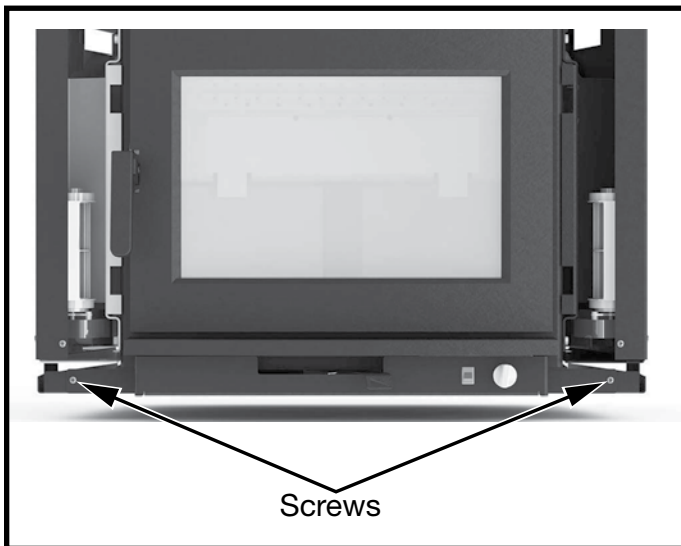

Figure 12: Control assembly securing screws.
1. Remove the two screws securing the control assembly to the unit and then disconnect the wires leading to the right side blower (Figure 12).